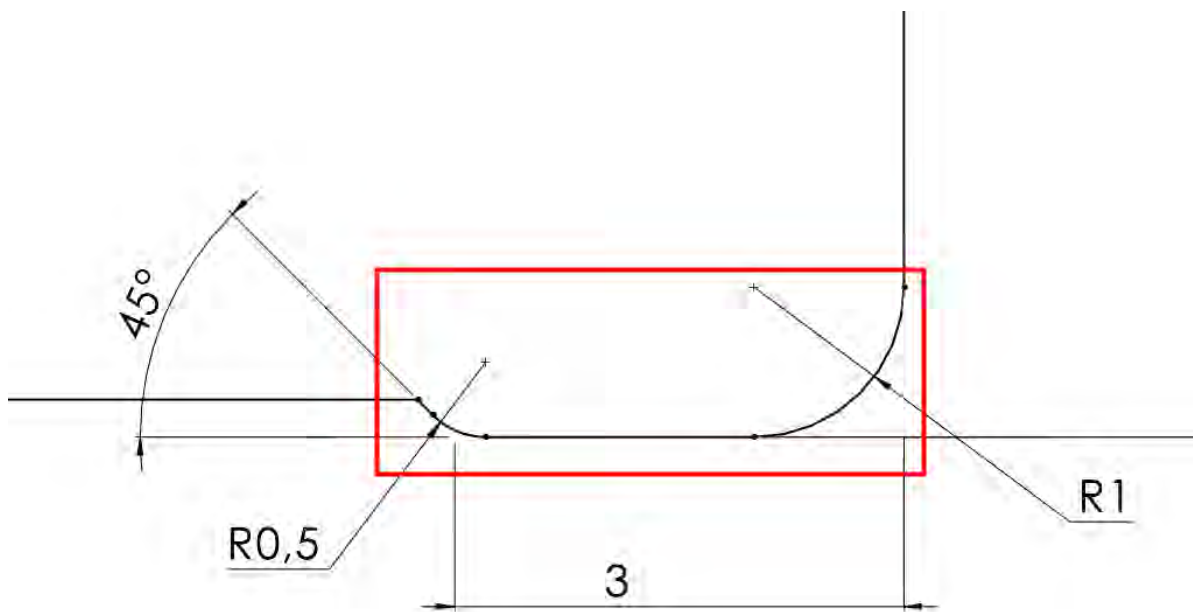

Figure 17 – Creating a groove profile in a general shaft sketch
- To do this, it is necessary to add notches to the sketch profile according to the groove sizes given in the table (Fig. 17).